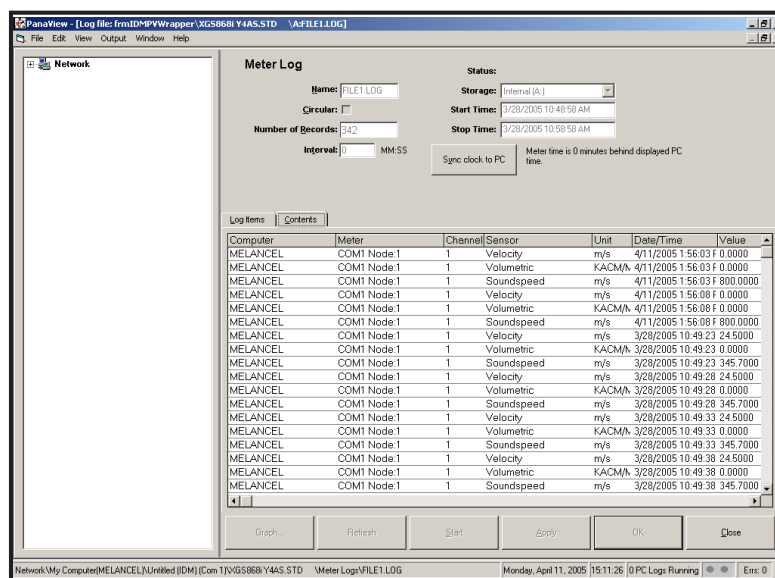

Figure 21: Typical Log Contents
- Click on the *Contents* tab (see Figure 21 on page 65) for a list of all the data points logged to date for the parameter currently highlighted on the *Log Items* tab.
Remember that only two parameters per channel may be graphed, and that the same two parameters must be graphed for each channel of a multi-channel graph display. When you have finished viewing the graph, click on the [Close] option button to close the Graph window and leave the log running. To review log details, click on the *Contents* tab. The window now appears similar to Figure 21.
- Click on the *Log Items* tab (see Figure 21 on page 65) for a list of the parameters specified for logging.